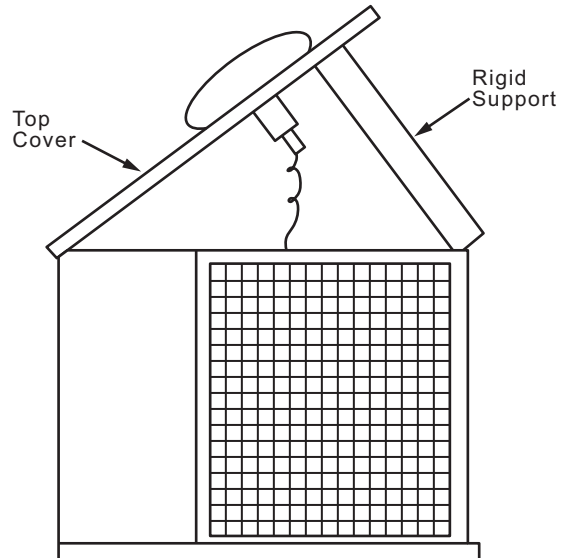

Fig. 28 — Pivot and Support Top Cover
2. Remove screws holding rear corner post and top cover in place. Pivot top cover up 12 to 18 inches (305 to 457 mm) and support with a rigid support. See Fig. 28.